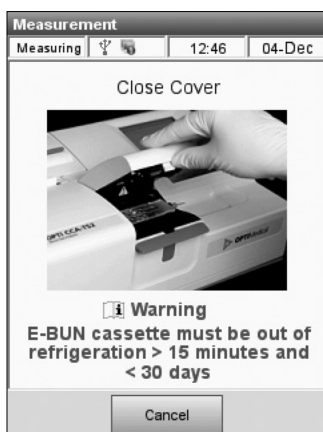

Fig. 5-14 E-BUN Close Cover
- Close the SMC cover (Fig. 5-14).